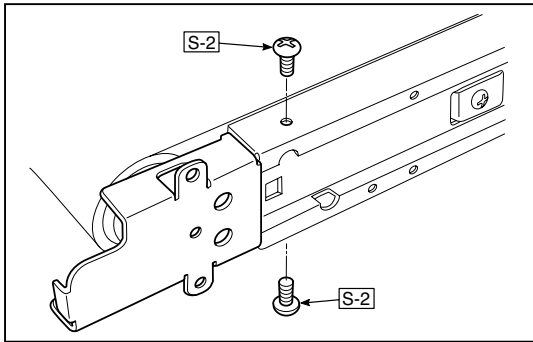

Fig.27
- 1.Remove the “S-2” screws shown in the figure 27.